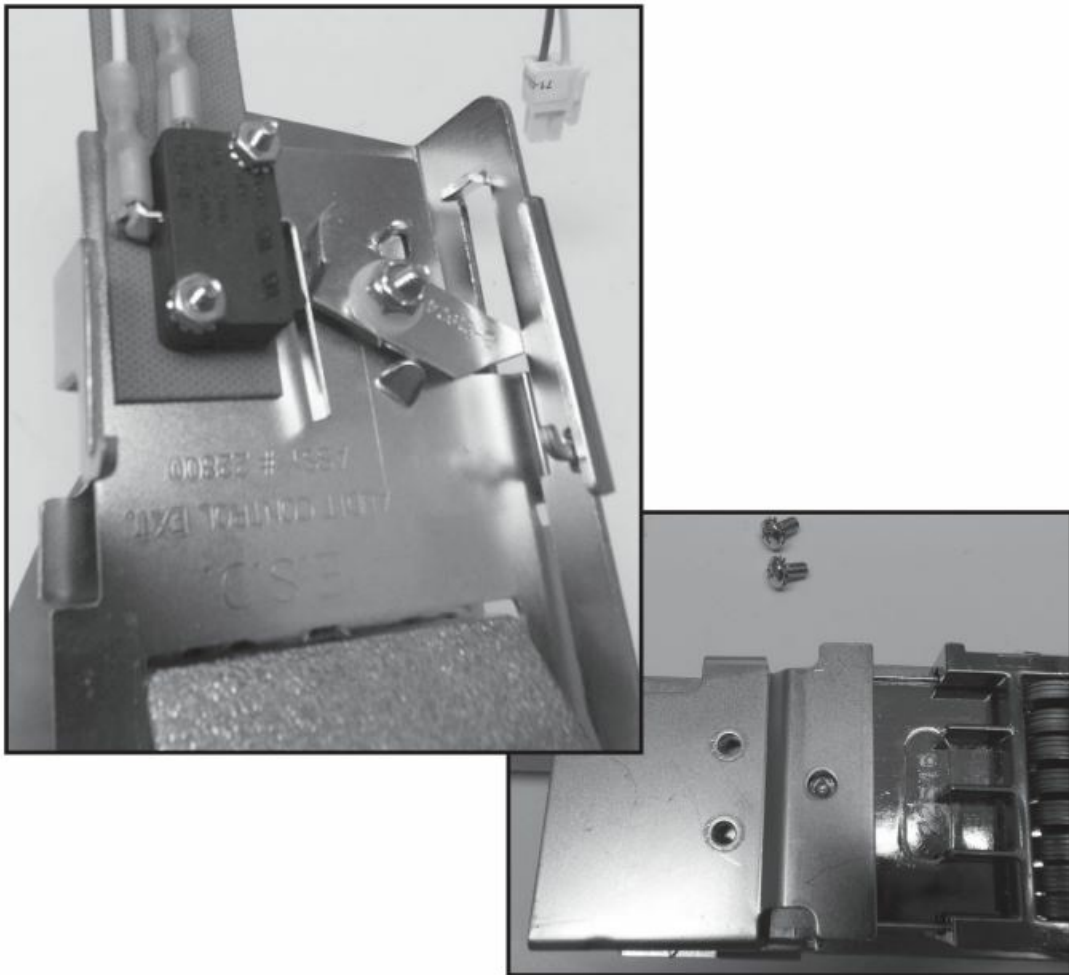

FIGURE 13
13. Rotate other end of spring retainer bracket up to the coin slide assembly and align holes on bottom of spring retainer bracket with holes on coin slide. See Figure 13